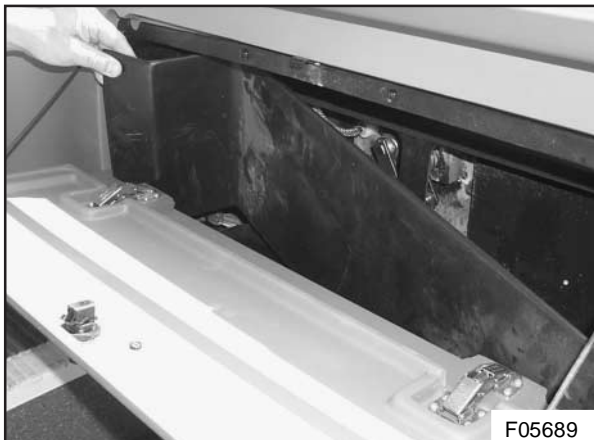

Figure 3: Compartment liner removal
- 6) Pull out the compartment liner, which is attached to the compartment back wall through Velcro strips (see Figure 3).